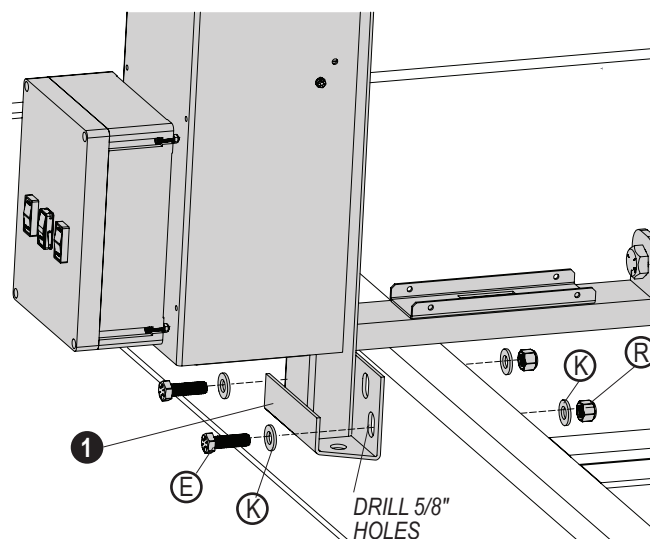

FIG. 119
- Mark and drill 5/8-inch holes through frame rails in line with the mounting holes in the gantry brackets (1).
- Fasten each bracket with hex bolts (E), washers (K), and nylon lock nuts (R), as shown in Figure 119.